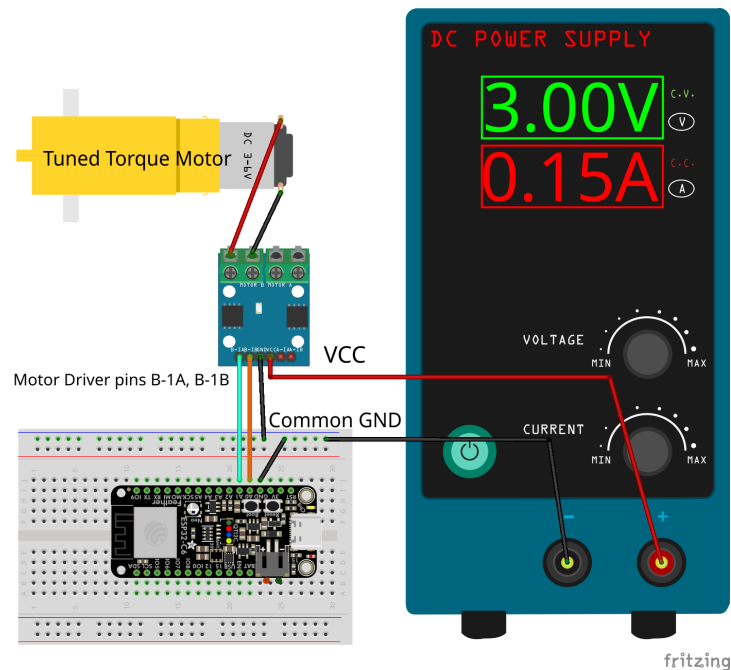

Figure 2: The wiring diagram of TT motor with ESP32
- Pay attention to the GPIO pinouts in Fig. 2 and **UNPLUG USB CABLE IF YOU SMELL BURNING/SMOKE!**